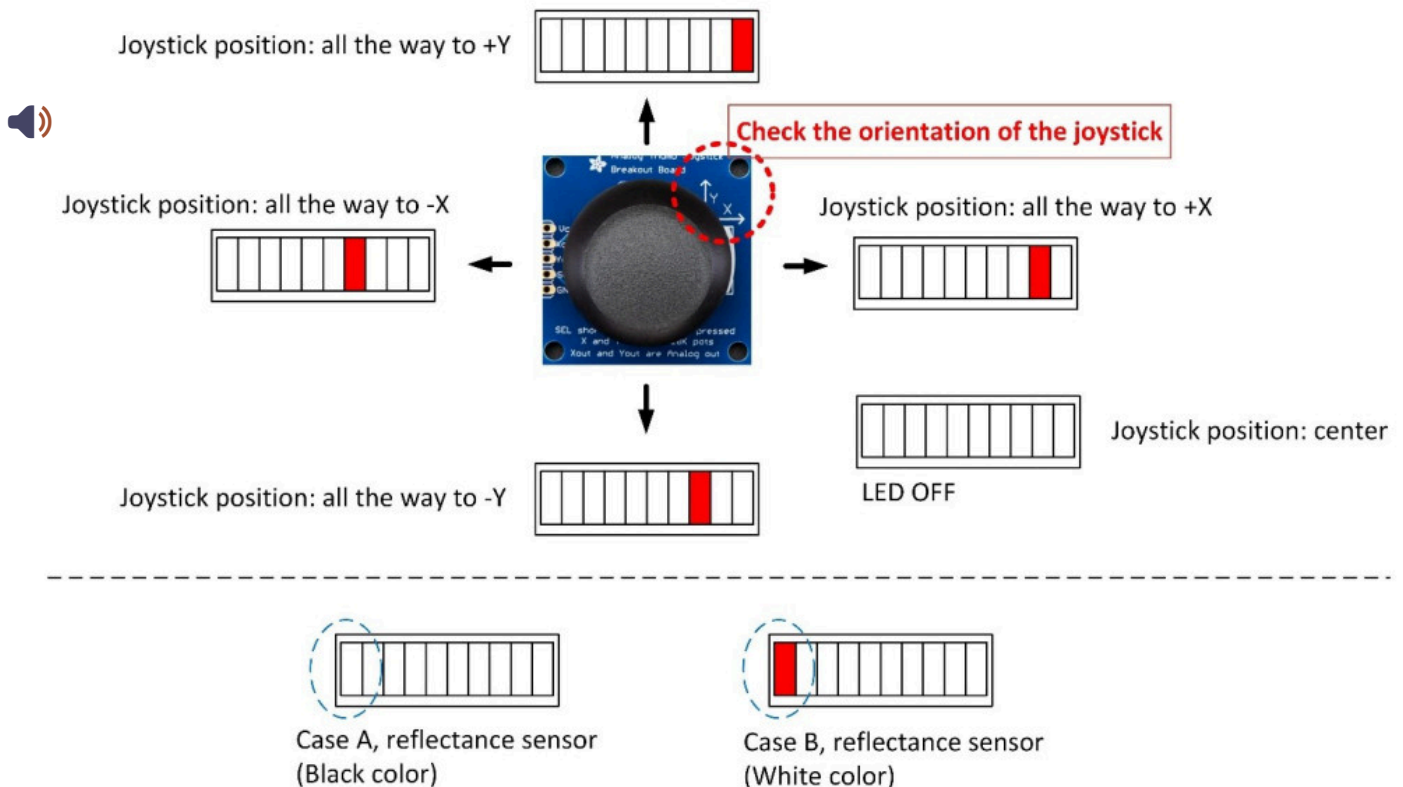

Figure 2. Functions
- The bar LED must be operated depending on the measured voltage levels from the joystick and the reflectance sensor as shown in Figure 2.